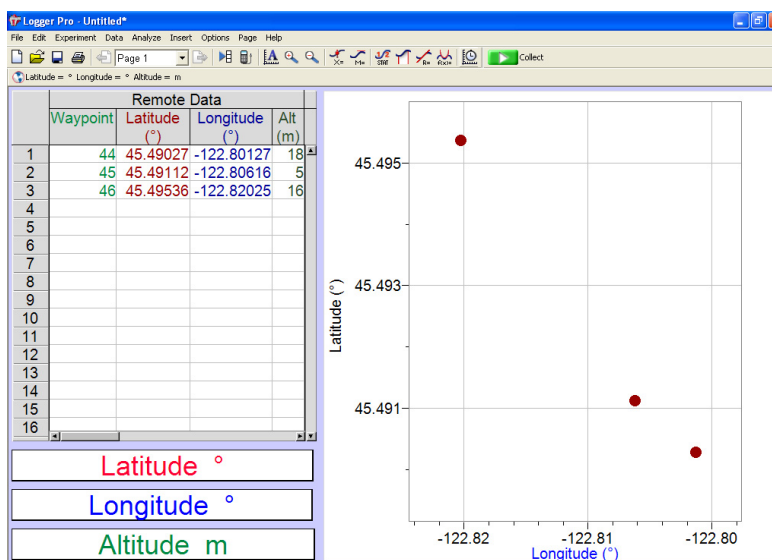
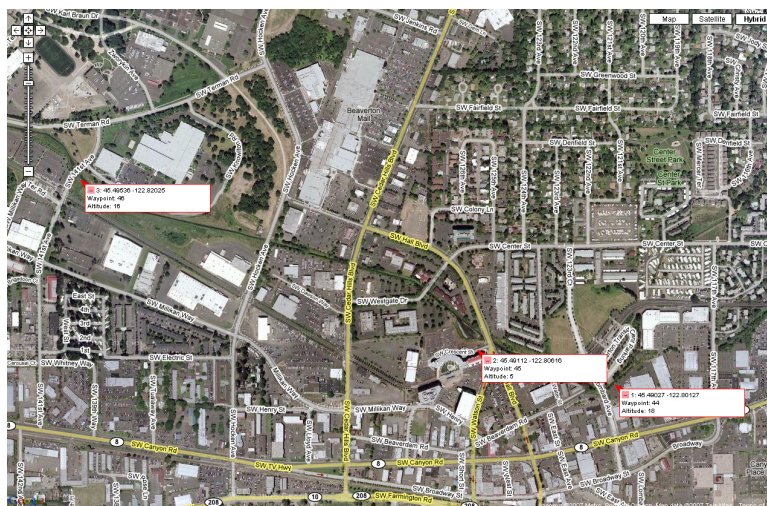

Figure 1: GPS waypoints in Logger Pro
Figure 3: Data points marked in Google map.
If you want to use a supported Garmin GPS unit in the field, save the locations as waypoints. When back inside, connect the GPS to the computer running Logger *Pro* and you will be prompted to retrieve the waypoints. Figure 1 shows three sample waypoints.
3. Click OK. Your default internet browser will be launched and your data will automatically be plotted on the Google map, as shown in Figure 3.
Geographic Information System, GIS, is the term used to describe a system which displays, manages, and analyzes data which is spatially referenced to the Earth. GIS software is used for everything from scientific investigation, to urban planning, to marketing. It is particularly important for agricultural studies because it can show the relationships between the collected data and its environment. The data in Figure 1, for example, doesn't show us much on the *Logger Pro* graph. Once mapped as in Figure 3, however, we can see that this is a fairly urban location with few trees and lots of roads and parking lots. How might these factors influence the temperature, TDS, and pH values measured at each site? GIS can help answer these questions.